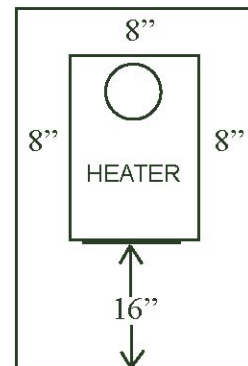

Figure 4
In addition to the wall clearances, the floor must also be given special consideration. The heater must be placed on a noncombustible floor system of at least the size specified in *Figure 4*. The noncombustible floor may be a typical concrete basement floor at least four (4) inches thick.